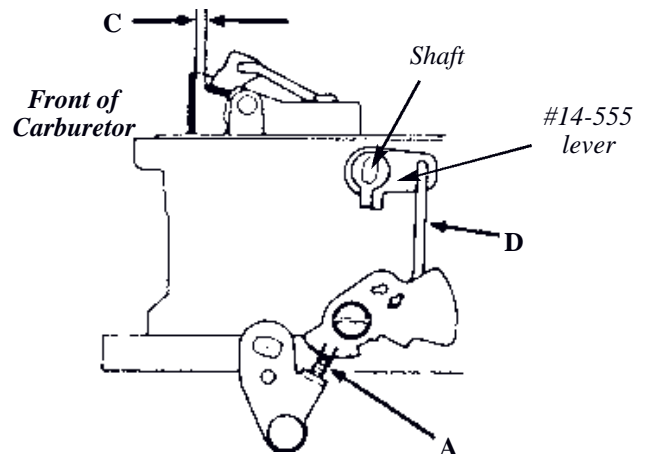

FIGURE 7
6. Place the new lever #14-555 on the new shaft and slide this subassembly into the airhorn. The lever should be located on the shaft using Figure 7 as a guide. Using the hair clip, reattach the fast idle linkage rod D.
To adjust the fast idle linkage (Figure 7) place the fast idle screw A between the two notches on the cam. Close the choke valve as far as possible without forcing it. The dimension C should be 3/64" between the choke valve and air horn. To adjust this dimension, bend rod D.